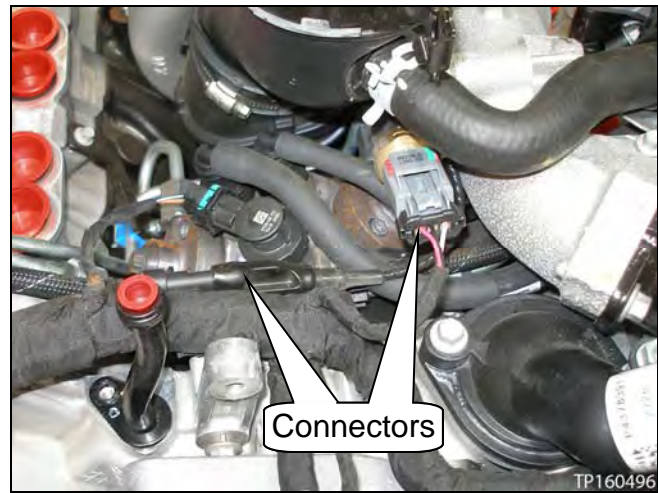

Figure 71
15. Connect the two (2) connectors (see Figure 71).